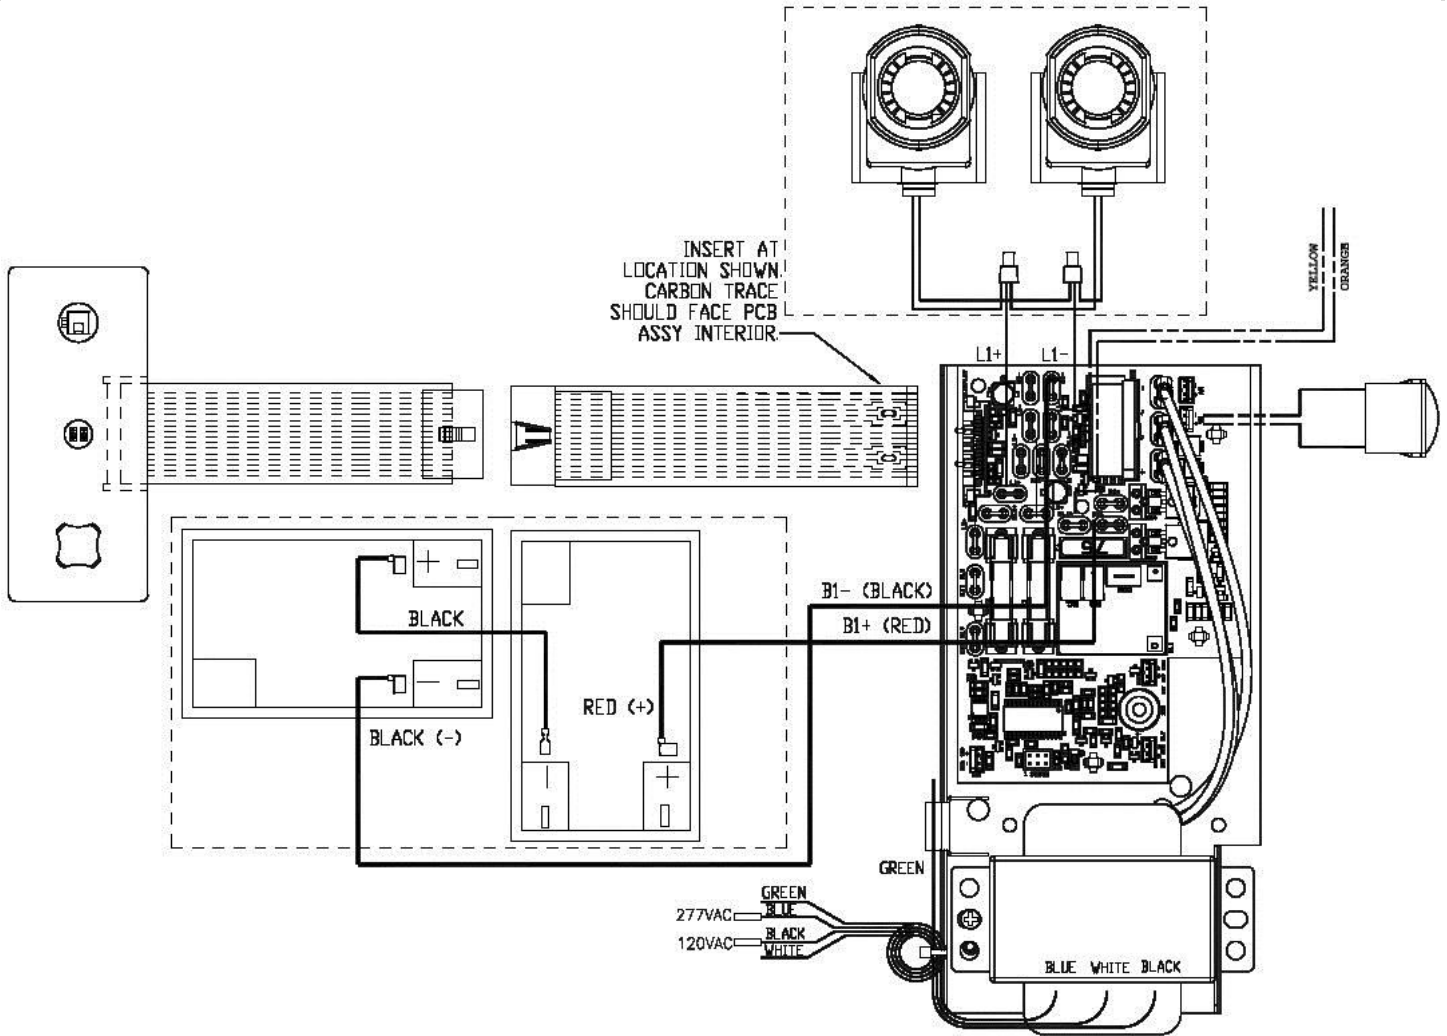

Figure 4
4. Connect lamp head leads, one grey lead to one terminal on the lamp head, a white lead to the other terminal. (Figure 4)
9. Connect Battery leads to the batteries. (Figure 4). **Warning: The unit will be damaged if the batteries are connected improperly.**